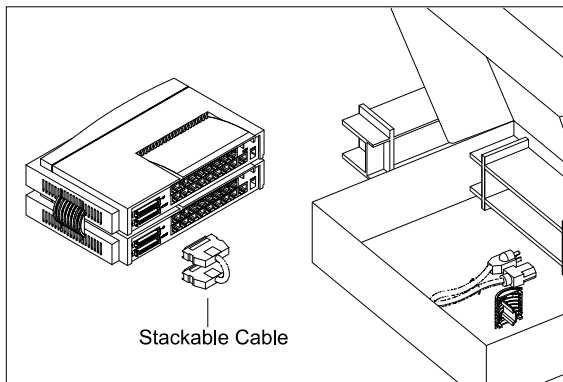

Figure 2-8 Connect hubs by stacking cable
2.2.3 Get the stackable cable and connect the cable to the stacking connector on the hub, as shown in Figure 2-8. Connect "Down" SCSI port of the upper hub to "Up" SCSI port of the lower hub. Any loose connection of the stackable cable will cause problems with network performance and quality.